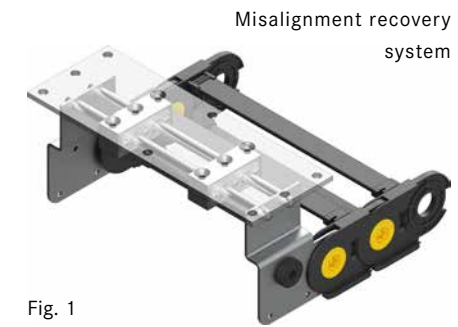

Fig. 1
- Misalignment recovery system (Fig. 1) for the mobile point in order to reduce the friction between the sidebands of the chain and the walls of the channel
Despite the precautions taken in the assembly phase, it may be that the channel is not aligned with the movement of the towing arm. If the maximum disalignment between the guide channel line and the movement of the towing arm is bigger than $\pm 4\text{mm}$ (Fig. 4), it is necessary to recover this gap using a misalignment recovery system mounted on the mobile point of the cable chain (Fig. 1).